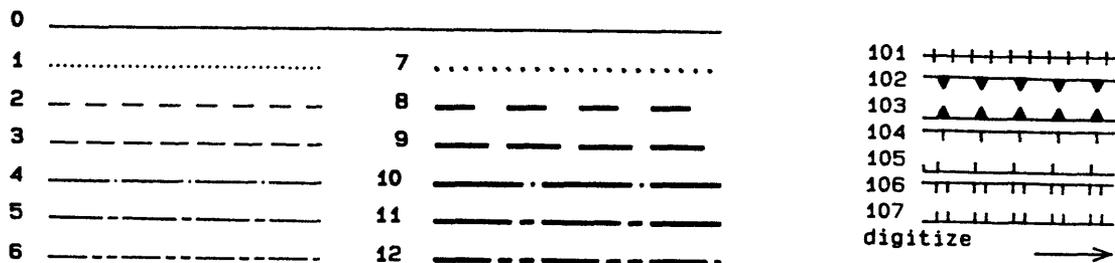

Figure 1._ Line types, NOT CODES; numbers to left of decorated lines are the number of the symbol in the CONFIG.PLT file.
1. CODE: user defined on the basis of the kind of line desired. Criteria to be considered in planning codes include, line type (pattern, solid, dashed, dotted, etc) see Fig.1, line weight, contacts at .005", faults .015", etc., "decorations", triangles for thrust faults, etc. Following entry of the code, "A" is used to complete the entry.
- Entry 3: the line type; uses line types 0-12 as specified for the plotter (see fig. 1), then a comma (,)